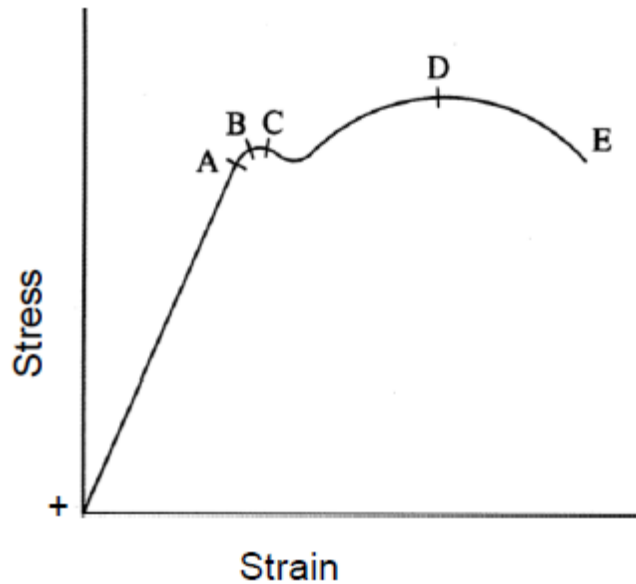

FIGURE 1.12
1.2 What do points **A–E** represent in FIGURE 1.12
1.3 What does point **D** denote in FIGURE 1.12